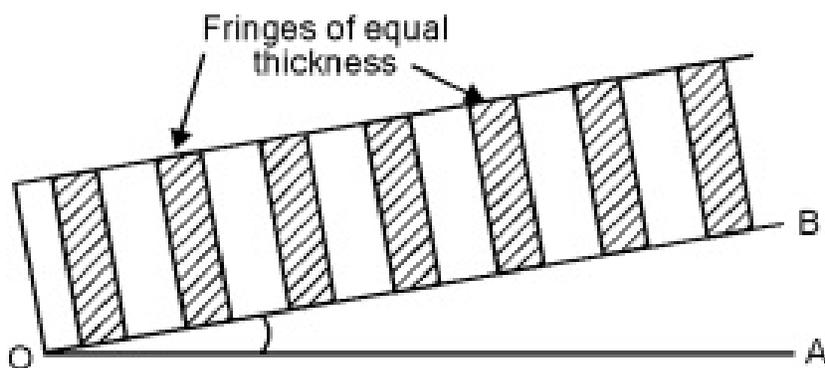

Fig. 2.5.1
- If two surfaces OA and OB (Fig. 2.5.1) are perfectly plane, the air film between them gradually varies in thickness from O to A. The fringes are of equal thickness as each fringe is the locus of the points at which the thickness of the film has a constant value.
- To test the optical flatness of a surface, the specimen surface to be tested (OB) is placed over an optically plane surface (OA).